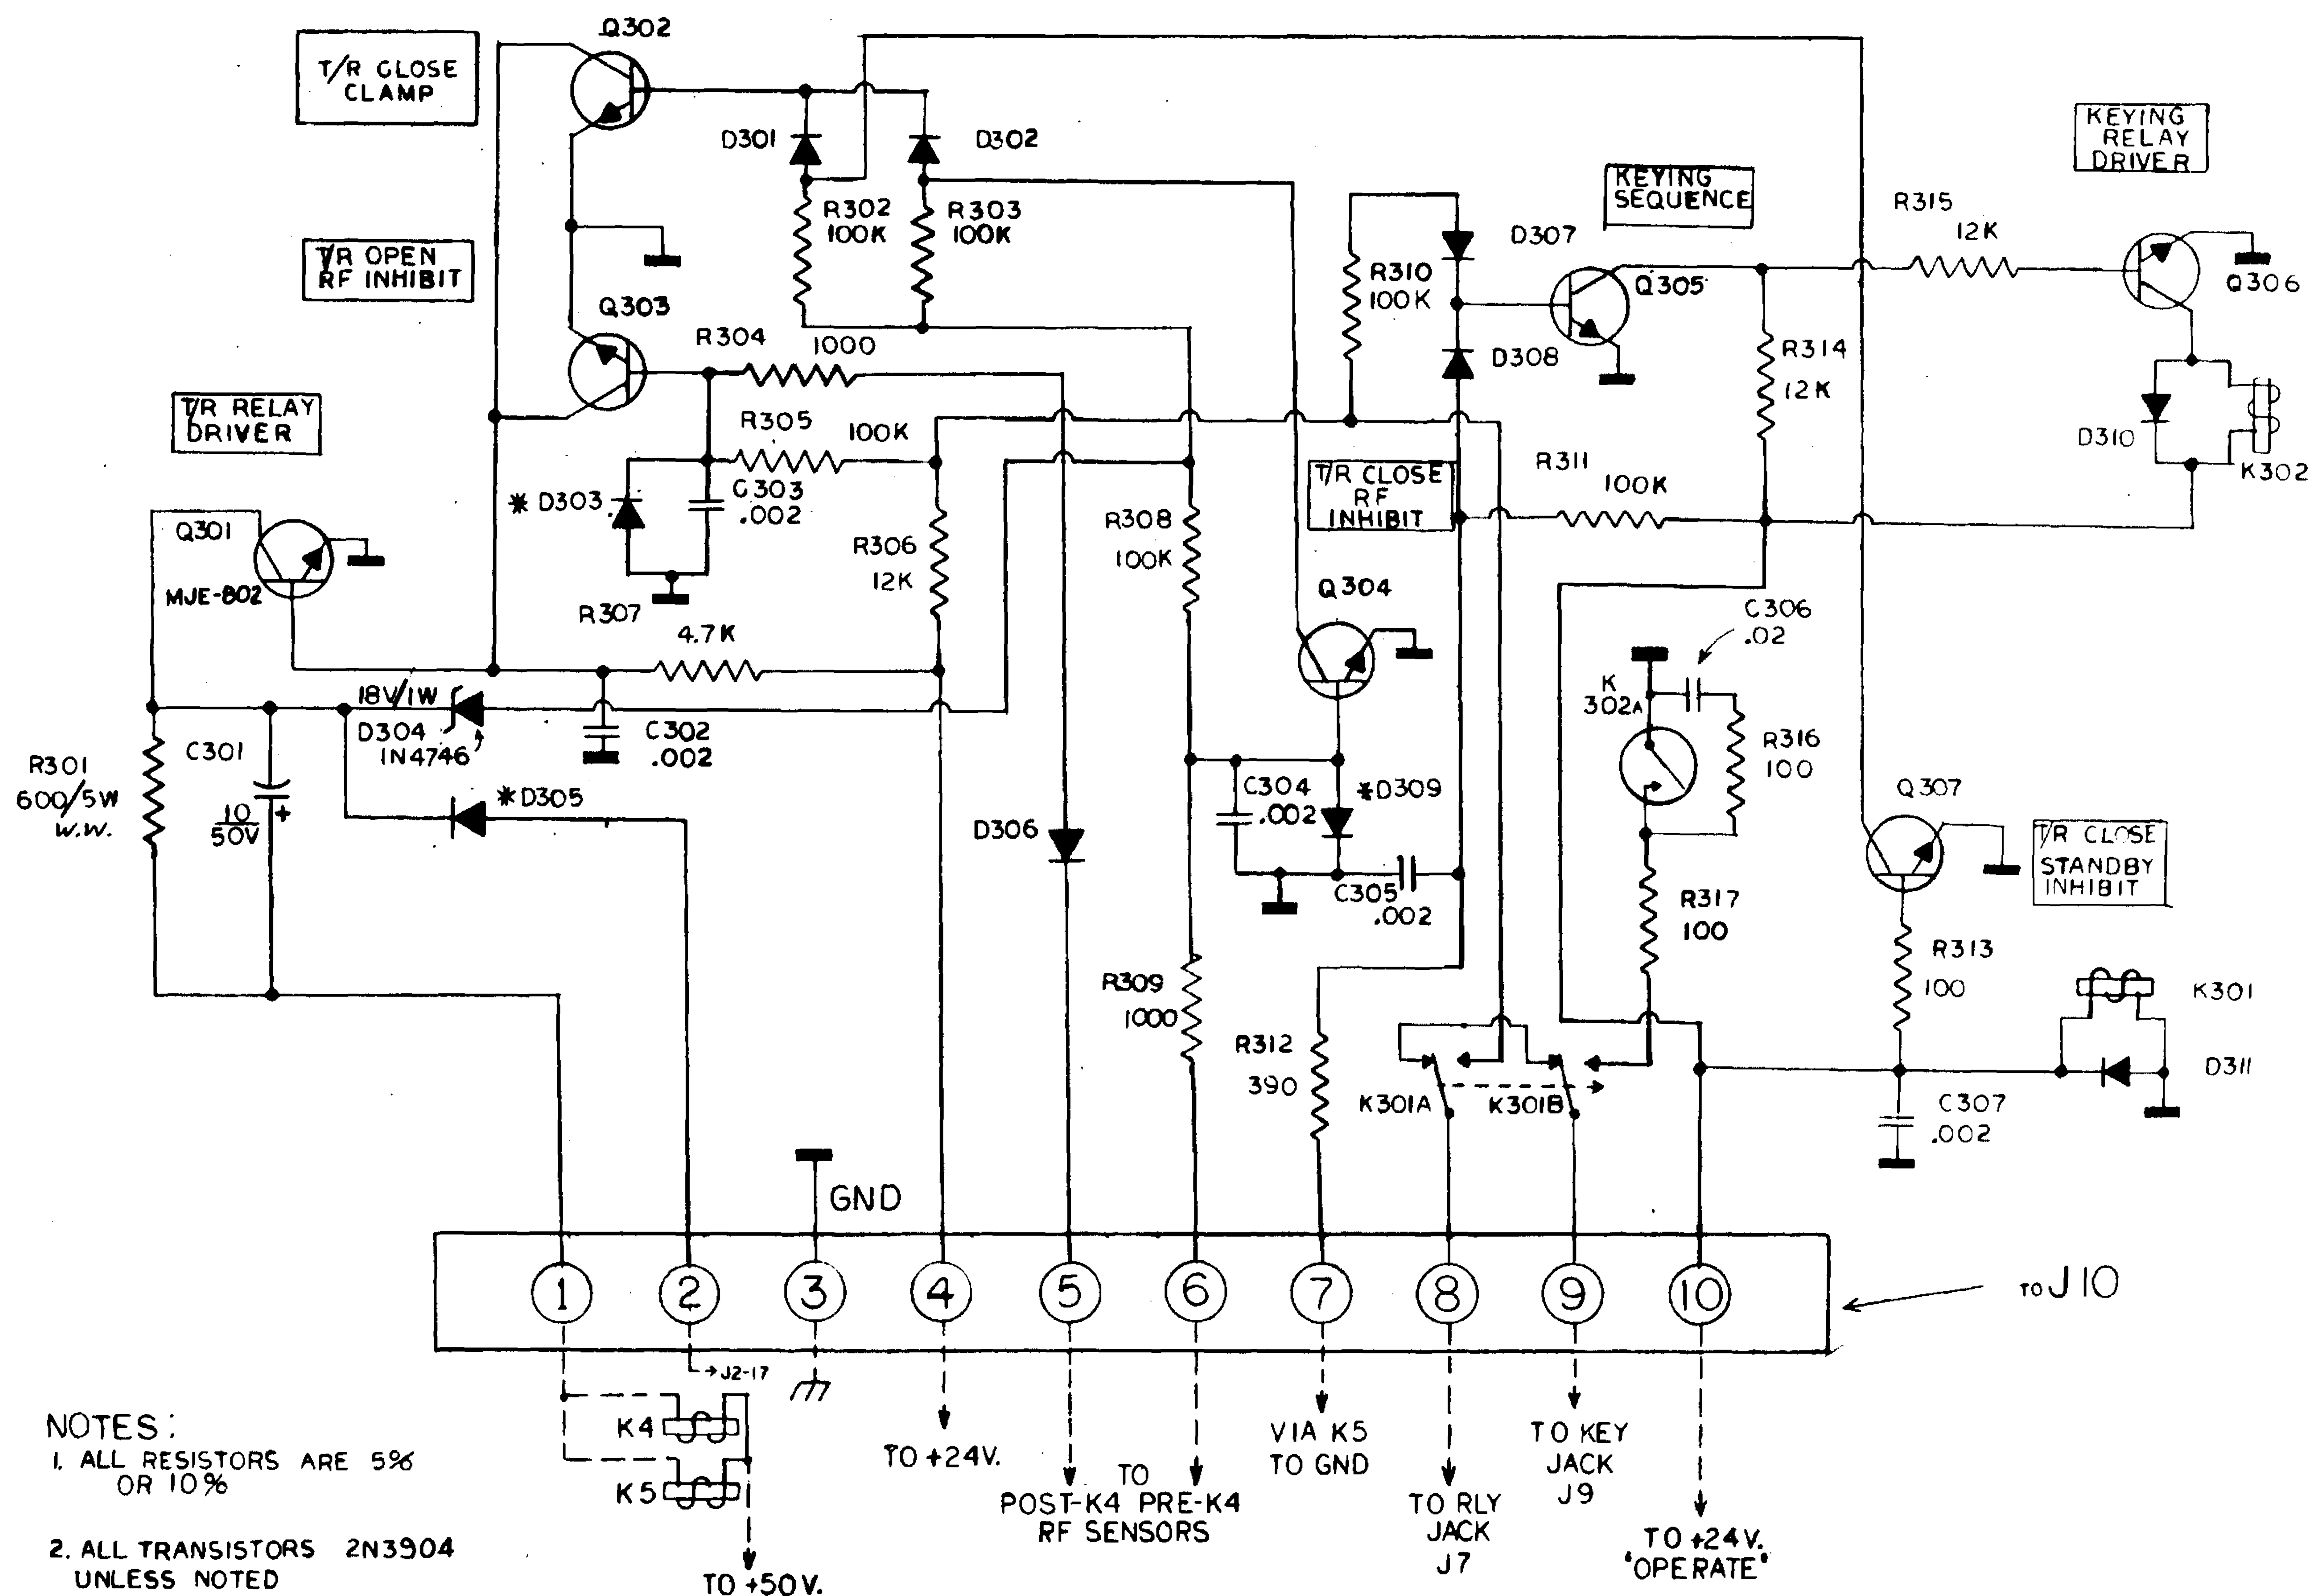

FIG. 22: ALPHA 77D & 77S SCHEMATIC - CB3 (QSK BOARD)
4. CW Break-In (QSK) System: (Fig. 22) The basic operation of the QSK system is best understood by considering the sequence of events which occurs when a pair of contacts (a CW key, PTT, or other contacts) connected to the amplifier RELAY jack is first closed, then opened. (Amplifier in CW/LOW V or SSB/HIGH V)
- (b) Q302 will be 'off' IF (1) the amplifier is in the OPERATE condition (not STBY) so that +24V from the MODE switch via QSK board (CB3) pin 10 turns Q307 'on,' preventing turn-on of Q302 via R302, D304, and R301, AND (2) Q304 is conducting, thereby preventing turn-on of Q302 via R303; Q304 is normally biased 'on' via R308, but will be switched 'off' by negative voltage from the "pre-K4 RF sensor" via CB3 pin 6 and R309 if detectable excitation power is present at the amplifier RF INPUT jack when the RELAY line is initially closed. Note that this sequence is only operational when the T/R relays are in the 'receive' (de-energized) condition, since - upon turn-on of Q301 to energize the relays - the d-c voltage at Q301's collector drops to nearly zero and consequently no bias-on voltage for Q302 or Q304 is available via D304. Thus, Q304 serves only to inhibit T/R relay closing when excitation is already present and Q307 inhibits relay closing when the amplifier is in STANDBY; once the T/R relays are energized, Q302, Q304, and Q307 are inactive.
- (c) Exciter-keying relay K302 cannot be actuated by Q306 until Q305 turns 'off.' Q305 is normally biased 'on' by two separate sources: (1) via R306 and R310, a source which goes to